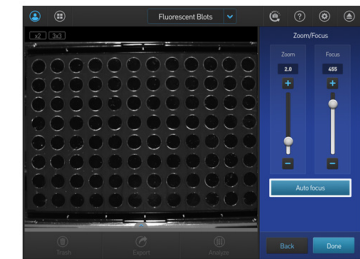

Figure 2. Re-focusing of the camera using the Auto Focus function
3. The camera focus may need to be adjusted to account for the height of the plate. To do this select "**More options**", "**Camera**", "**Zoom/Focus**". Once the desired zoom level is achieved, (1.5x zoom helps provide maximum image resolution and facilitates alignment of the plate to the analysis template) select "**Auto focus**" to re-focus the camera on the plate (Figure 2).